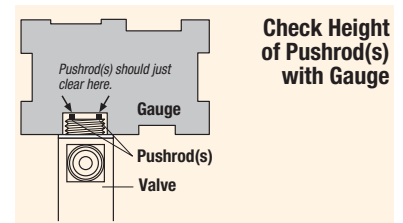

Figure 11
9. Now place the spring guide stamping (when used), and spring, in the pin carrier, place the lower spring guide on the opposite end of the spring and screw the bottom cap in place. (Replace the pin guide, spring, and bottom cap assembly together on Type (E)BF/SBF and (E)R/SR, BBI, CBBI and EBS valves). After screwing bottom cap assembly in place, carefully tighten, preferable with two 10" wrenches, to seal the metal-to-metal knife edge joint. The sealing surfaces should be free of any foreign material or nicks that might prevent a leak-tight joint.
10. On valves with replaceable elements (except Types O, (E)BF/SBF and EBS), place the pushrods into the body and open the valve several times by pressing down on the pins with a flat metal surface. This will help seat the pin properly.
11. Check the height of the pushrod(s) above the element sealing surface with the pushrod gauge (see Figure 11). The gauge is supplied with internal parts kits or can be obtained at no charge upon request. (Since the internal parts of the Type (E)BF/SBF (E)R/SR, BBI, CBBI and EBS valves cannot be replaced, it is not necessary to check the pushrod height of these valves.)